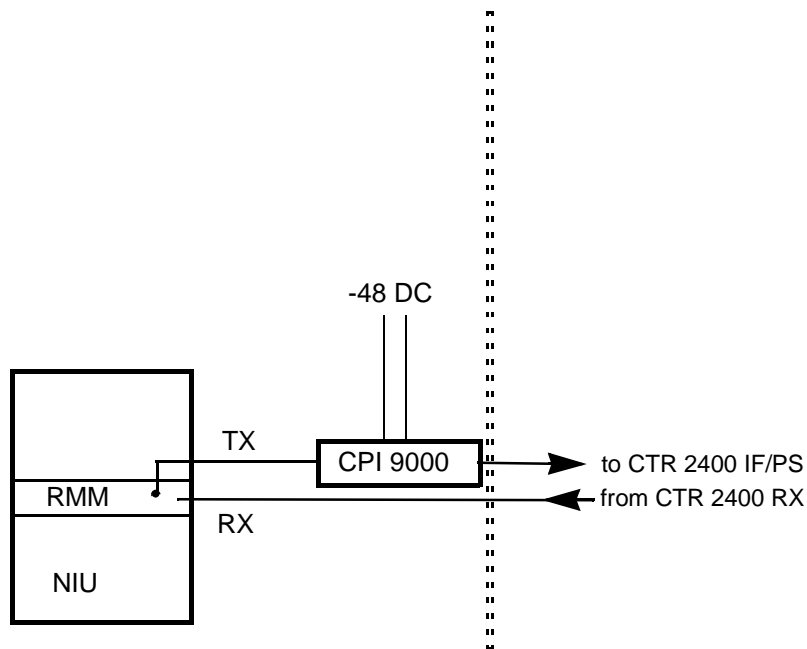

Figure 1-3
2. Connect the IF/power supply input cable to the CTR's N-type IF IN 18 VDC port. See Figures 1-3 and 1-4.
3. Connect the RX cable from the CTR's N-type IF OUT port to the RMM RX port. See Figures 1-3 and 1-4.